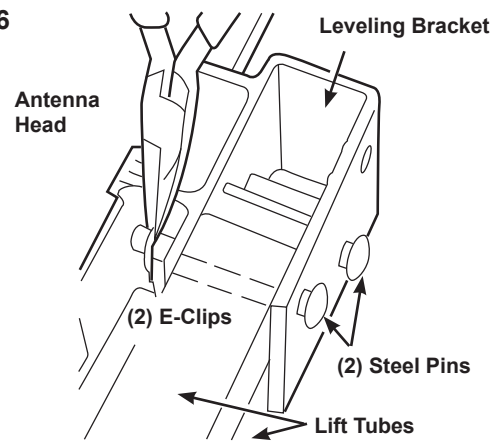
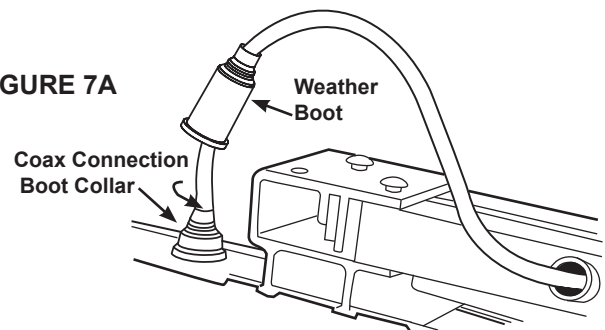

FIGURE 7A
FIGURE 7B
STEP 7: On models made before March, 2004, attach coax connector to jack on back of antenna head, slide weather boot into place over boot collar; shown in Figure 7A. On models made after March, 2004, attach weather resistant coax connector to jack on back of antenna head; shown in Figure 7B.